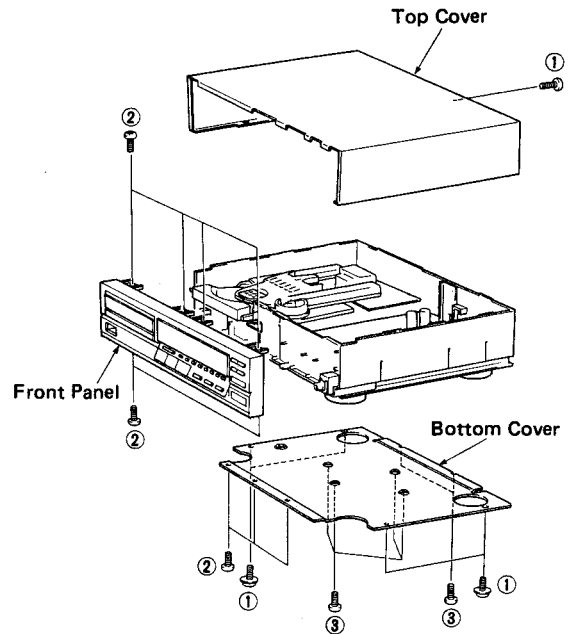

Fig. 1
- a. Remove 5 screws (①) in Fig. 1, and slide the Top Cover to the back side.
- a. Remove 9 screws (②) in Fig. 1, and pull the Front Panel forward.
- a. Remove 6 screws (③) in Fig. 1.